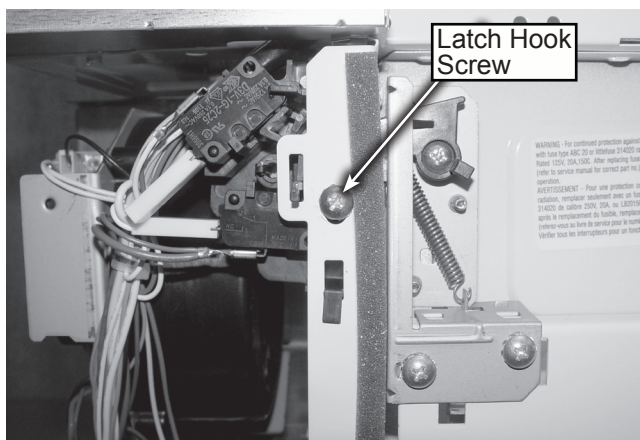

Figure 1
4. Remove the screw holding the latch hook to the oven flange, see figure 1.